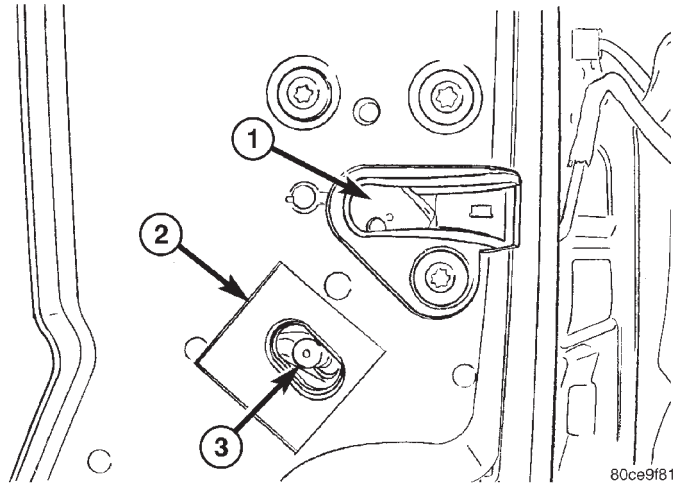

Fig. 7 LATCH ADJUSTMENT SCREW
- (1) Locate access hole and remove the mylar tape covering it. (Fig. 7)
- (2) Insert a 5/32-inch hex-wrench through hole and into adjustment screw. Loosen screw.
- (3) Operate outside handle several times to release any restriction because of mis-alignment.
- (4) Tighten adjustment screw to 3 N·m (30 in. lbs.).
- (5) Test handle and lock cylinder for proper operation.